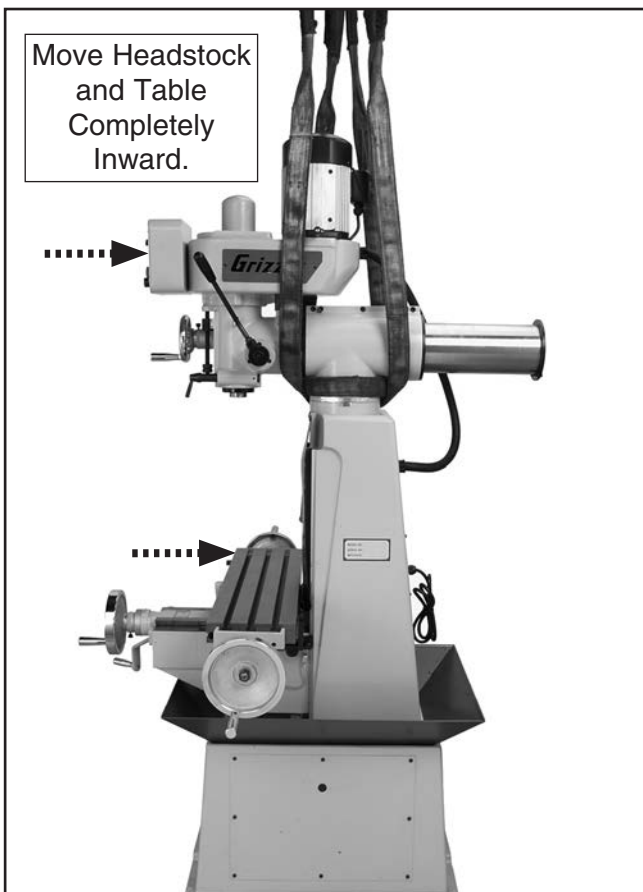

Figure 10. Lifting straps positioned.
1. After removing the crate sides from the shipping pallet, adjust the headstock and table as close to the mill body as possible, and install the lifting straps, as shown in **Figure 10**.